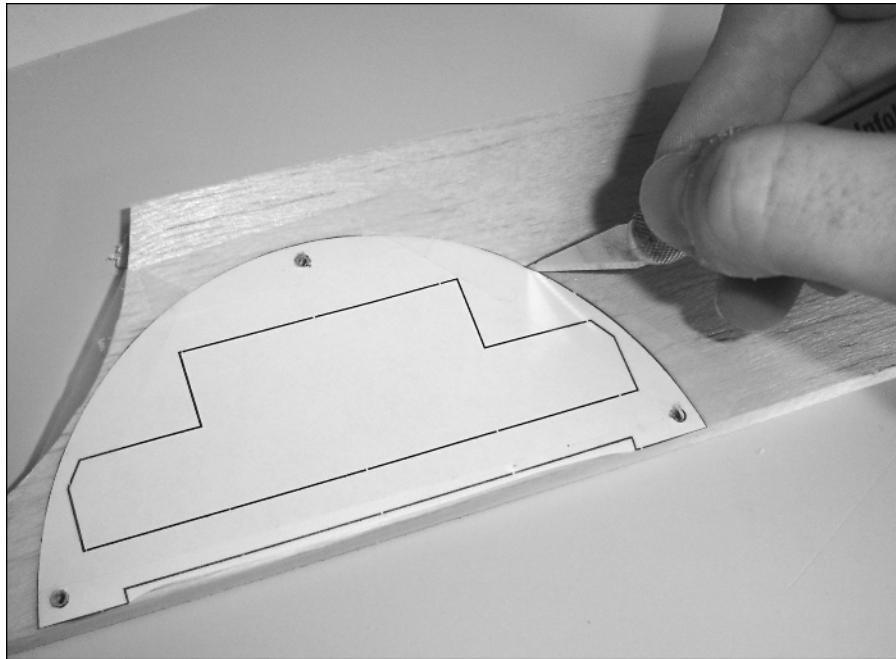

FIGURE 10-11: The battery riser pattern on 3/8" thick balsa wood.
1. Print out the file “SNES by hand Battery Risers.pdf” or “SNES by hand Battery Risers.wmf.” Cut out the two main shapes on the paper and tape them, one at a time, to your 3/8”-thick piece of balsa wood, as shown in Figure 10-11.